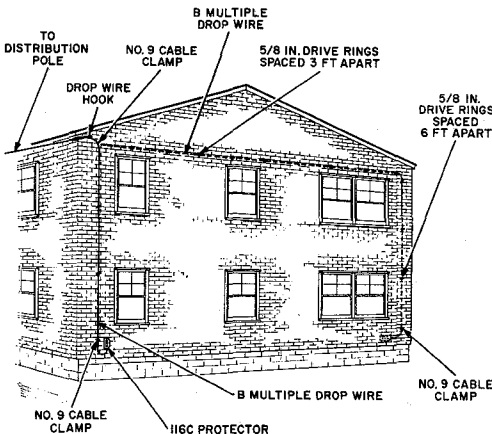

Fig. 1—Complete Wire Run on Building
2. MULTIPLE DROP WIRE RUNS ON BUILDINGS (Fig. 1)